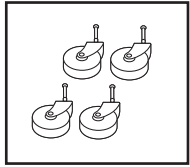

**FIGURE 2**
2. Lift cover off of tank by using the handle on top of the cover. **FIGURE 2.**